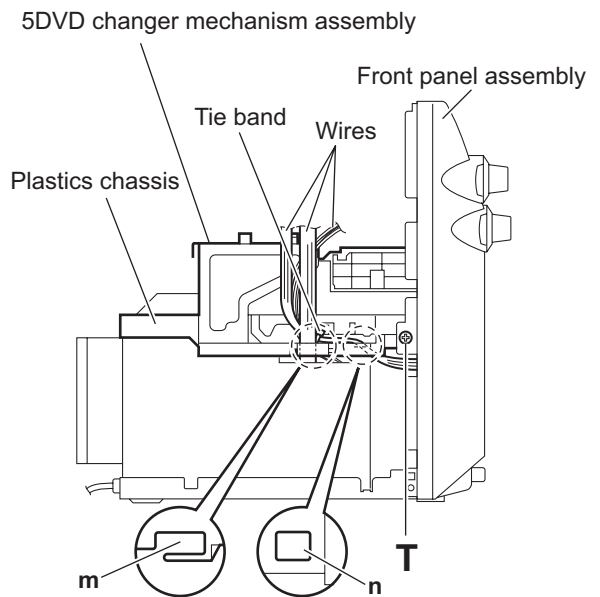

Fig.22
- (2) From the left side of the main body, remove the tie band bundling the wire and parallel wires. (See Fig.22.)
After reassembling, bundle the wire and parallel wires with the new tie band as before. (See Fig.22.)
When attaching the 5DVD changer mechanism assembly, pass the wires through the sections (**m**, **n**) of the plastics chassis. (See Fig.22.)
When attaching the 5DVD changer mechanism assembly, pass the wires through the sections (**m**, **n**) of the 5DVD changer mechanism assembly. (See Fig.22.)